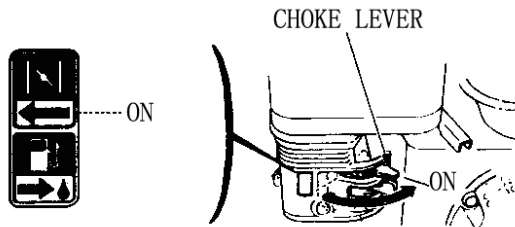

Fig. 10
- (6) After engine warm up, open the choke gradually. See figure 10.